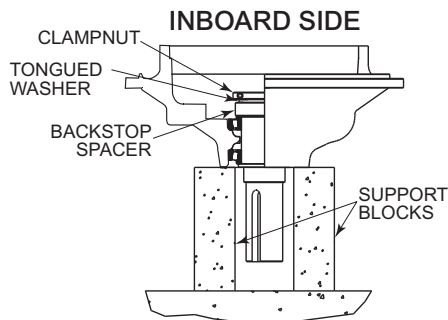

Figure 6.3.2.1 Endbell Disassembly
3. Support hub to expose the inboard side of the endbell; reference Figure 6.3.2.1.